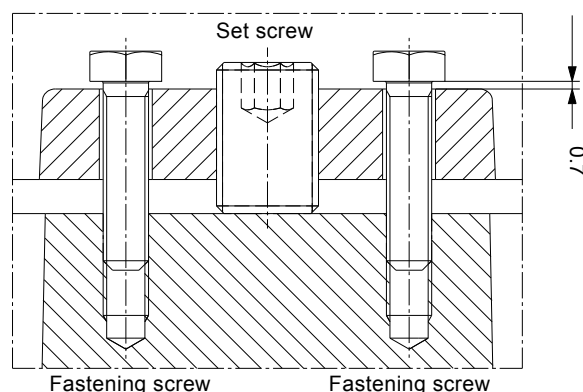

Fig. 16 Impeller clearance adjustment
3. Slacken the fastening screws to make an 0.7 mm gap under the heads of the fastening screws. See fig. 16.